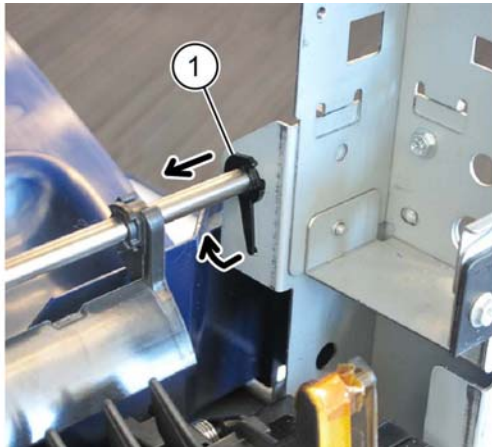

Figure 1 Bearing
4. Move the bearing (1) toward the front, Figure 1.